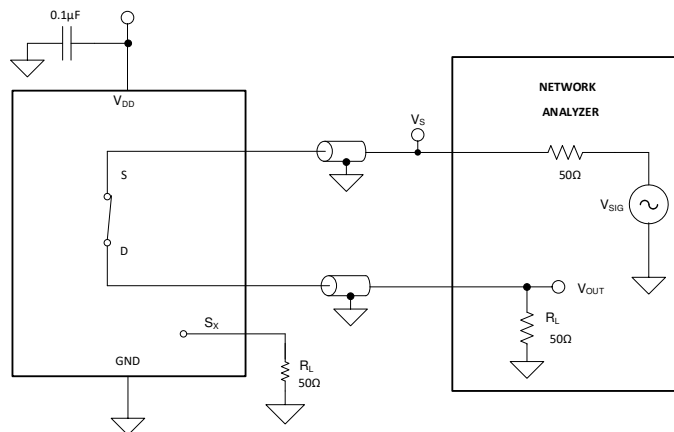

**Figure 7-9. Channel-to-Channel Crosstalk Measurement Setup**
Crosstalk is defined as the ratio of the signal at the drain pin (D) of a different channel, when a signal is applied at the source pin (Sx) of an on-channel. **Figure 7-9** shows the setup used to measure, and the equation used to compute crosstalk.